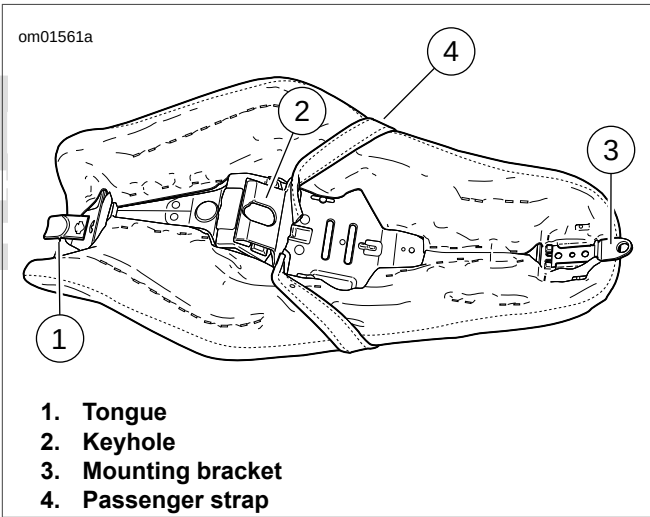

Figure 2-225. Seat: XL Two-Up
- **Two-Up Seat:** See Figure 2-225.
4. Slide seat rearward to detach seat tongue (1) from rear fuel tank bracket.
5. Verify that tongue and mounting bracket (3) are tightly secured to the seat bottom.